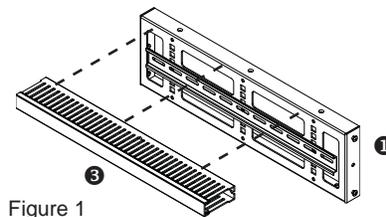

Figure 1
Step 2. Align wire duct's ❸ inside open slots with 3 screw holes on top edge of Main Panel ❶. Secure them with M4x8 screws. (Figure 1)